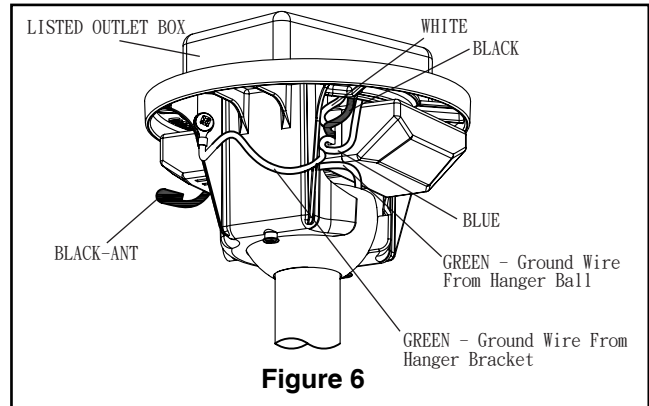

Figure 6
- ☐ 6. Cut off excess lead wire approximately 6 to 9 inches above top of the top of the downrod. Strip insulation off 1/2-inch from the end of each lead wire (Figure 6).
- ☐ 5. After connections have been made, turn leads upward and carefully push leads into the outlet box, with the white and green leads to one side of the box and the black leads towards the other side. The wires should be spread apart with the grounded conductor and the equipment-grounding conductor on one side of the outlet box and the ungrounded conductor on the other side of the outlet box (Figure 6).
- ☐ 6. Insert light bulbs into sockets (Figure 6).